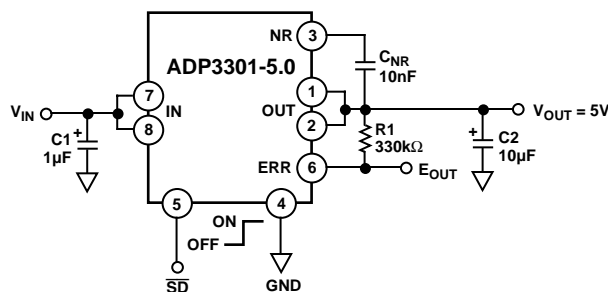

Figure 20. Noise Reduction Circuit
A noise reduction capacitor (C_{NR}) can be used to further reduce the noise by 6 dB–10 dB (Figure 20). Low leakage capacitors in the 10 nF–100 nF range provide the best performance. Since the noise reduction pin (NR) is internally connected to a high impedance node, any connection to this node should be carefully done to avoid noise pickup from external sources. The pad connected to this pin should be as small as possible. Long PC board traces are not recommended.